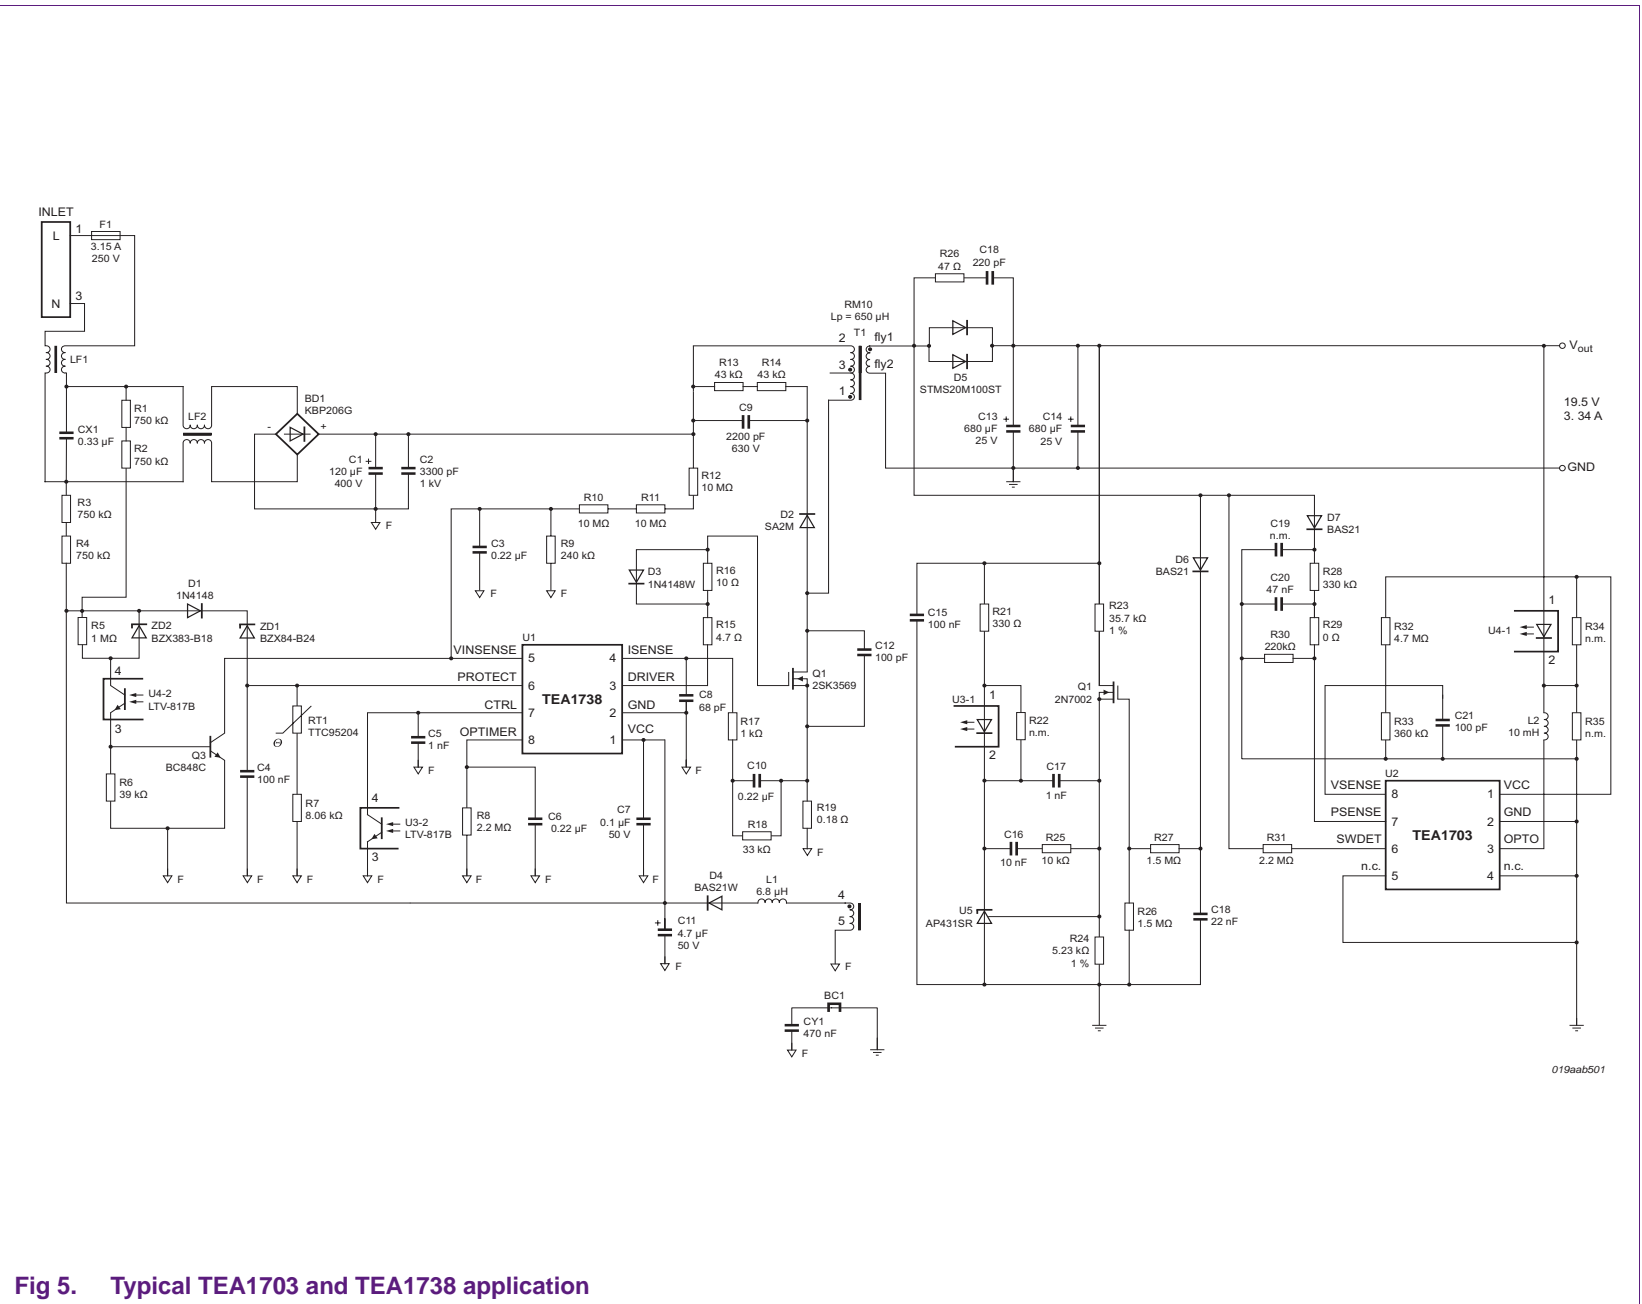

Fig 5. Typical TEA1703 and TEA1738 application
When the latch protection is not reset via VSENSE but for instance via the VCC pin of the TEA1738, pin SWDET can be connected to the VCC of the TEA1703 via a 2.2 M Ω resistor. A VCC clamp (ZD2) as shown in Figure 5 is required.
Pin SWDET is a current controlled input. A current above the $I_{th(SWDET)}$ level of 1.2 μ A enables the Standby mode via the optocoupler when $VSENSE \geq 1.22$ V and $PSENSE \leq 0.5$ V. Place the current limiting resistor (R31 in Figure 5, R50 in Figure 13) at pin SWDET.
Figure 5 shows a typical application of the TEA1738 low cost SMPS controller and the TEA1703 Standby controller. During Standby operation, optocoupler U4 forces VINSENSE (pin 5 of the TEA1738) low via transistor Q3. The SMPS stops switching when the voltage on VINSENSE drops below 0.72 V.
To reduce standby power consumption, the AP431 reference (U4 in Figure 5) and the resistor divider R23 and R24 are switched off in standby by means of Q1. This reduces the standby power by 5 mW to 10 mW. The values of R26, R27 and C18 are not critical. Resistors R26 and R27 reduce the maximum gate voltage and C18 creates a switch off delay. See the switching signals in Figure 6. Until the output voltage reaches the minimum value, the power consumption is minimal.
The no-load standby power at 230 V (AC) of the SMPS shown in Figure 5 is 39 mW. In Standby mode, the output voltage varies between 19.9 V and 12.6 V. The standby power threshold is 470 mW and the power-up time from standby to maximum load 160 ms.
Using the component values shown in Figure 5, the power level to enter Standby mode is 470 mW and the minimum output voltage level at which the optocoupler is disabled 12.6 V. These levels can be adjusted separately. Preferably the power level is adjusted first.
Capacitor C20 in parallel to R30 in Figure 5 reduces the ripple at PSENSE. The ripple at PSENSE around the comparator level of 500 mV should be less than the hysteresis of 15 mV.
The minimum output voltage depends on the load in Standby mode. When the output load is zero the minimum output voltage is equal to the set voltage. The set voltage is the output voltage set with the resistor divider at pin VSENSE. See Figure 5.
When the output is loaded in Standby mode, the output voltage decreases below the set voltage until the SMPS restarts. In that case the minimum output voltage is lower than the set voltage. When the application of Figure 5 is loaded with 20 mA in Standby mode, the difference between the set voltage and minimum output voltage is 6 V at 115 V (AC). See Figure 10a. At 230 V (AC), the difference is less and about 2.1 V. At 230 V (AC) the charge current for the VCC capacitor is higher and consequently the start-up time shorter.
Be careful not to exceed the maximum peak current of the optocoupler and keep in mind that a large peak current effects the life cycle of the optocoupler and the standby power consumption. Peak currents above 10 mA already have impact on the life cycle of the optocoupler. The coil of 10 mH used in Figure 5 is a compromise between the maximum peak current of 2.5 mA and the minimum drive current of 0.655 mA for the optocoupler. The coil current and optocoupler pulses for the minimum and maximum output voltage of 5 V and 20 V are shown in Figure 12.
L (H) = inductance of coil L2 in Figure 5, 10 mH